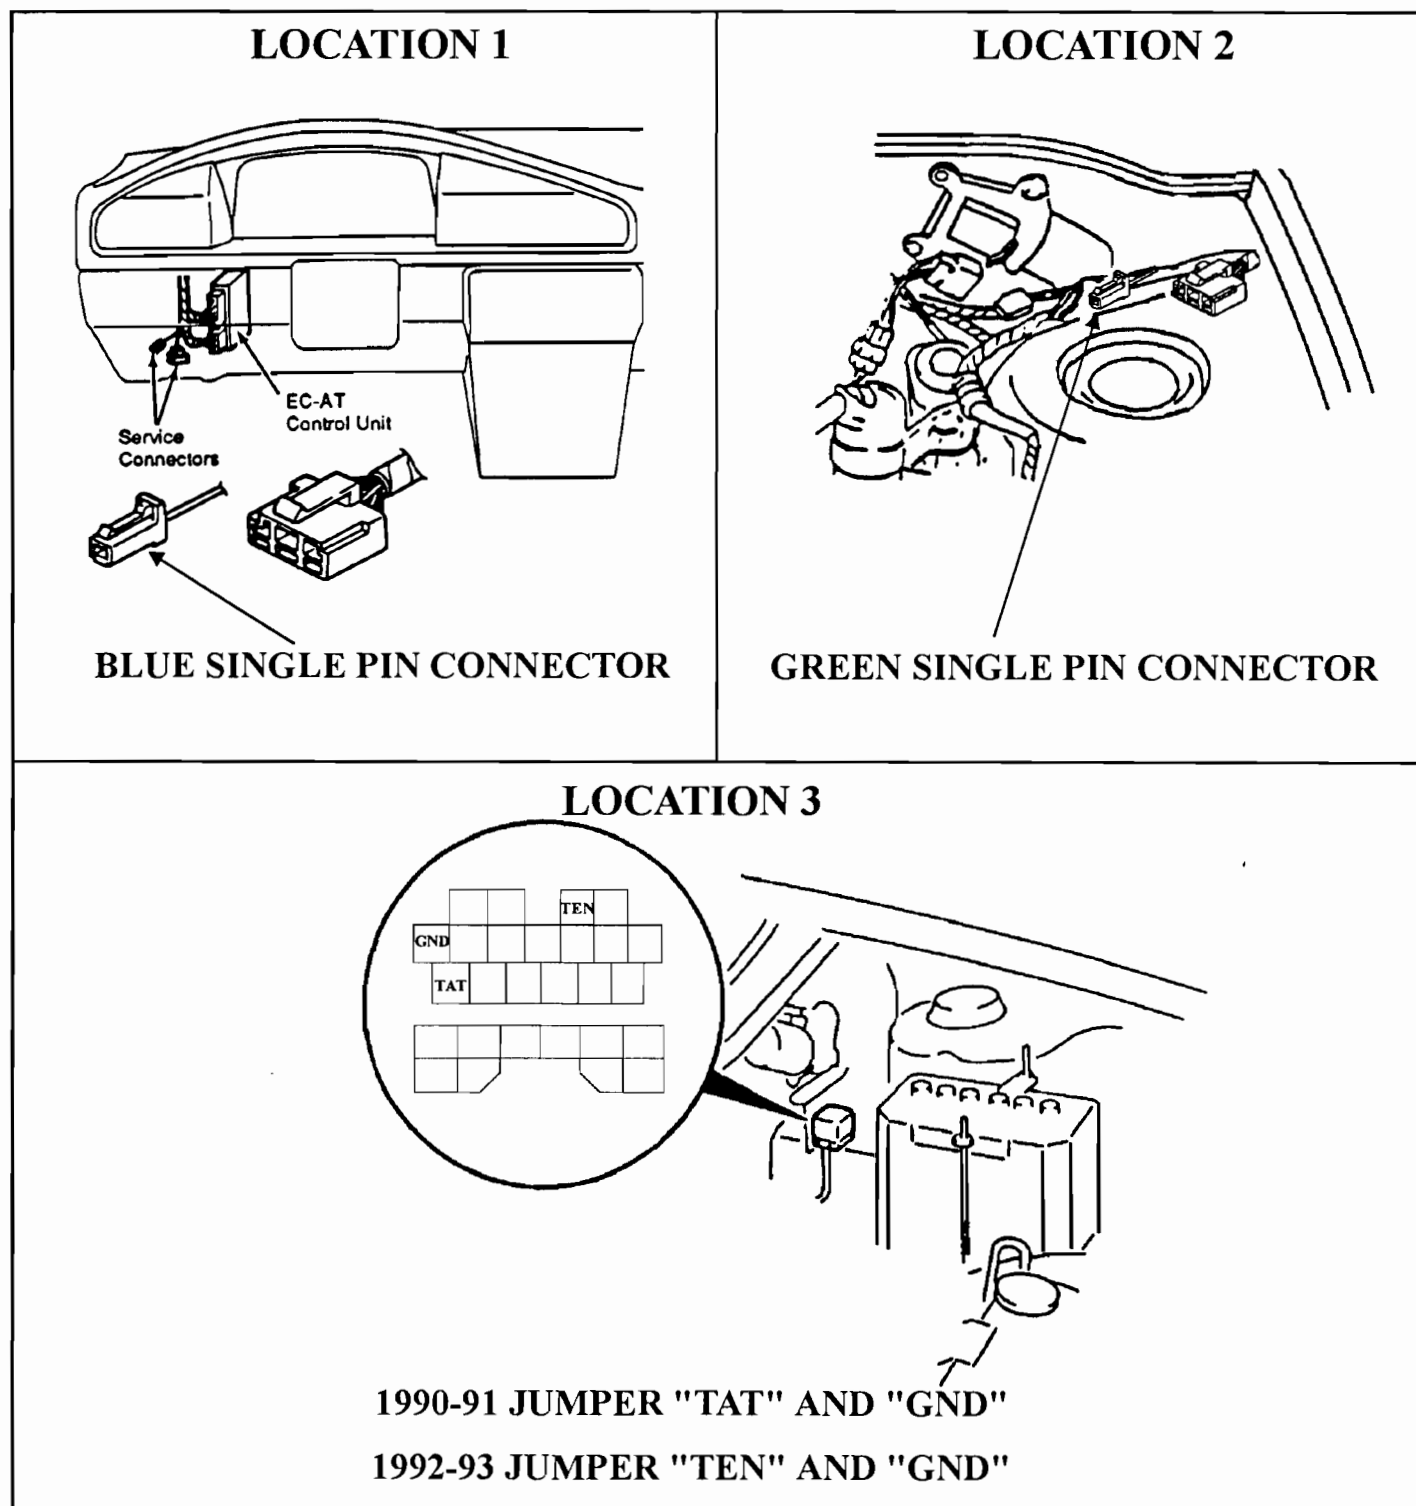

Figure 36
(See Location 1 in Figure 36)
LOCATION: The BLUE diagnostic connectors are located 6-10 inches from the ECAT main computer connector which is located at the left of the steering column NOTE: The diagnostic connectors may be taped to the main computer harness and may be difficult to find. (See Location 1 in Figure 36)
(See Location 2 in Figure 36)
- LOCATION: The multiple pin diagnostic connector is located behind the battery below the windshield wiper motor. (See Location 3 in Figure 36)
- LOCATION: The BLUE diagnostic connectors are located 6-10 inches from the ECAT main computer connector which is located at the left of the steering column. (See Location 1 in Figure 36)